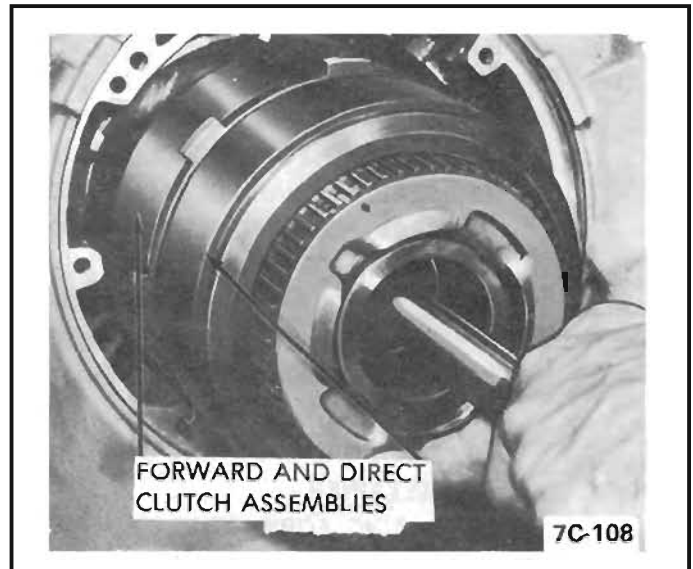

Figure 32 Forward and Direct Clutch Assembly Removal
1. Remove direct and forward clutch assemblies from case. *See Figure 32.*